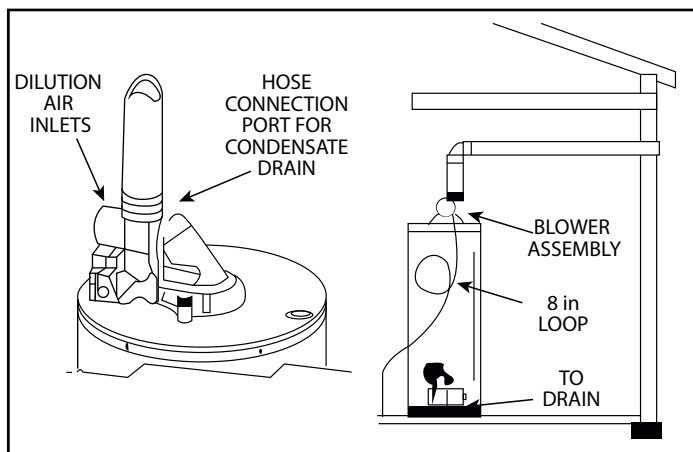

Fig. 12
1. This power vented water heater comes with blower assembly installed (see Figure 12).
Condensate formation does not occur in all installations of power vented water heaters, but should be drained on installations where it can form in the venting system. Condensation in the venting system of power vented water heaters is dependent upon installation conditions including, but not limited to, ambient temperature and humidity of installation location, ambient temperature and humidity of venting space, vent discharge and slope, and product usage. In certain conditions, installations in unconditioned space or having long horizontal or vertical vent runs can accumulate condensate. Long lengths of venting that pass through cool/cold areas will experience condensation. The vent pipe should be sloped upwards away from the blower assembly, then adequate means for draining and disposing of the condensate needs to be made by the installer. If installation conditions cause condensation, install a condensate trap loop approximately 8 in.in diameter using 3/8 in. plastic hose. Connect the hose to the built-in drain port of the rubber coupling of the blower assembly (see Figure 12). Loop the hose in a vertical position as shown. The tube loop must be filled with water at least half way prior to operating the heater. Ensure the end of the tube has access to a drain as condensate will flow from the end. Secure the tubing to the side of the heater. Prior to operating the water heater, make sure the removable cap is installed on the drain port (if a drain hose is not needed).